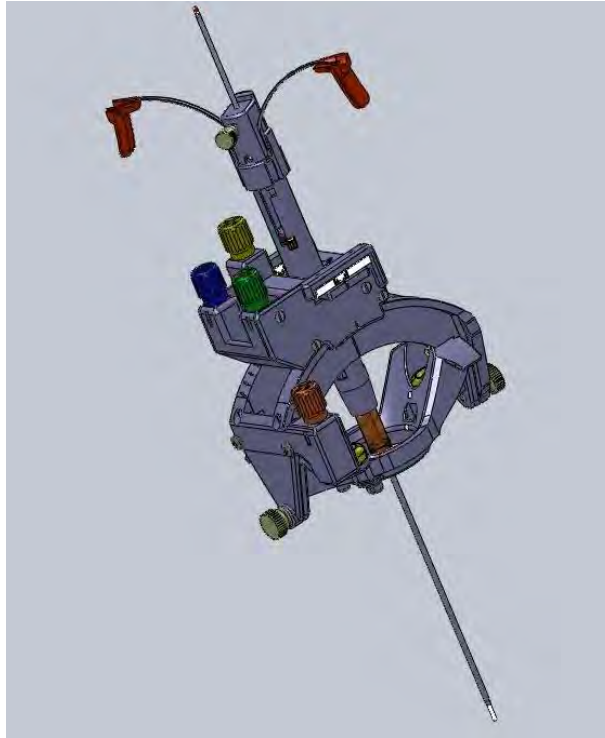

Figure 20: SMARTFrame with Stylet Assembly inserted and snap locked into place.
19. During insertion, view the advancement of the Stylet Assembly on the ClearPoint Workstation as appropriate. This insertion and visualization may be performed in 1/3 increments. **See Figure 20 for Stylet Assembly inserted into SMARTFrame XG.**